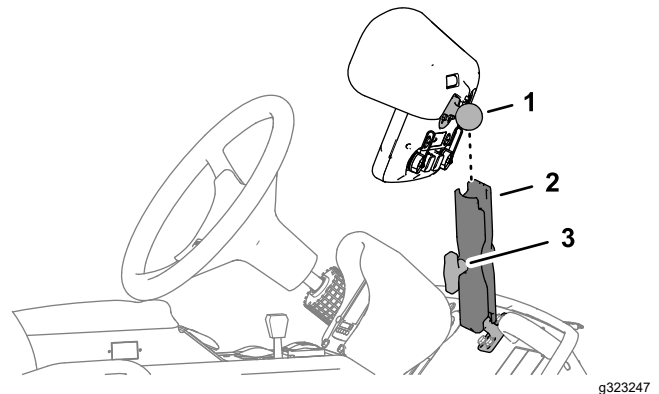

Figure 13
1. Loosen the knob of the monitor arm until you can slip both the ball pivot for the ball pivot at the back of the sprayer monitor into the socket monitor arm (Figure 13).
2. From the driver's seat (left seat), adjust to position of the sprayer monitor so that you can easily view the display screen (Figure 13).
3. Tighten the knob for the monitor arm by hand (Figure 13).